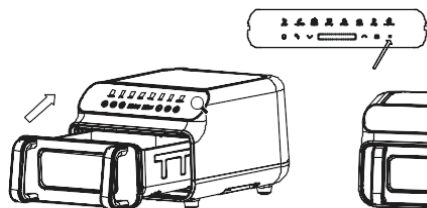

Figure 3
03. Push the frying bucket into the fryer after placing the ingredients. Please make sure that the lock of the frying bucket locks tightly into place (Figure 3).